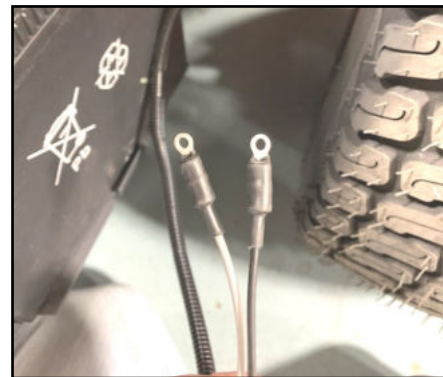

Fig. 7.8 (Route Harness to Right Control Stick)
- 7.8 See fig. 7.8. Locate the portion of the wire harness with two ring terminals crimped on the ends of black and gray wires. Route the ring terminals forward over the ROPS tube in front of the battery next to the existing wiring and up along the right side of the vehicle to right hand control.